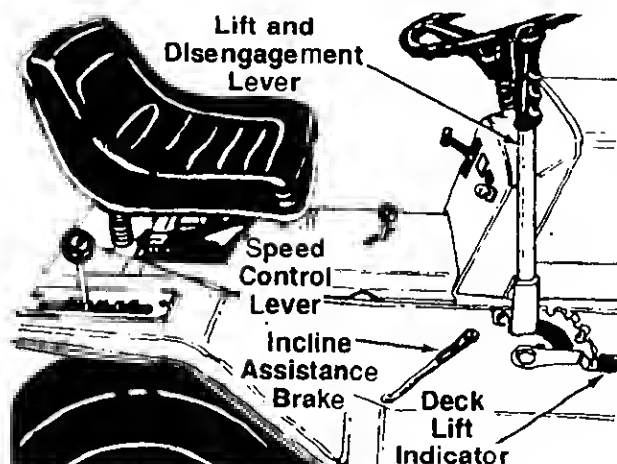

FIGURE 10.
The speed control lever allows you to regulate the ground speed of the lawn tractor. See figure 10. To select the ground speed, depress clutch pedal. Push speed control lever outward and move backward to slow lawn tractor, move forward to increase speed. When desired speed has been obtained, release lever in that position. Whenever clutch is engaged, unit will automatically go to the pre-set speed.
When stopping on a hill, hold the incline assistance brake lever back while you release the clutch-brake pedal until the lawn tractor begins to move, then release the lever. This lever permits smoother starts and clutch engagement by holding the tractor during the brake release/clutch engagement operation. See figure 10.
The lift and disengagement lever is used to raise and lower the cutting deck. Pulling it all the way back and locking it disengages the blades. The lift and disengagement lever must be in the disengaged position when starting the engine, when shifting into reverse or if the operator leaves the seat. See figure 10.
The deck lift indicator marks the position being used for the lift lever. Select the lift lever position desired, press the indicator lever outward, move it to the position immediately below the lift lever and release the indicator lever. See figure 10.
3. Place the lift and disengagement lever in the DISENGAGED position. See figure 10.